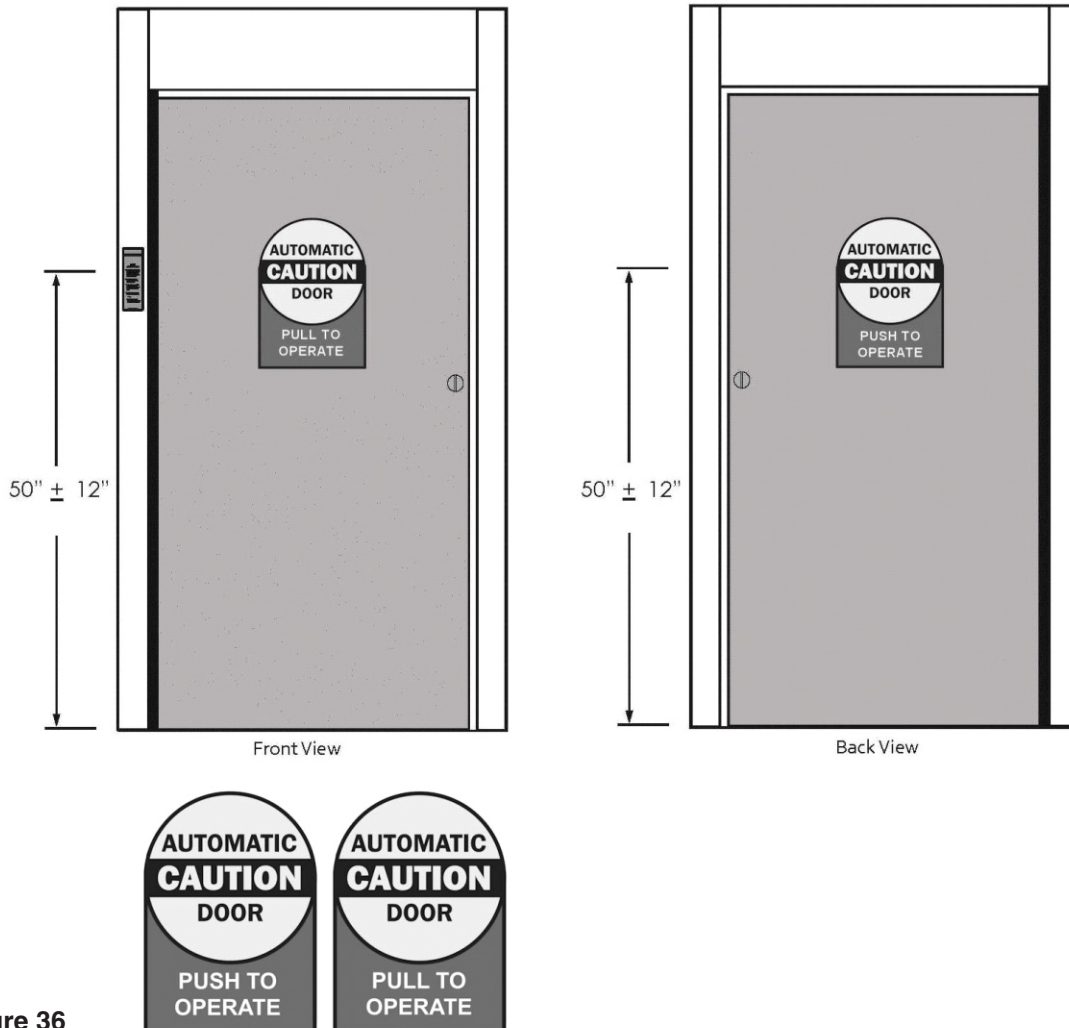

Figure 36
1. Refer to Figure 36, and INSTALL door decals.
2. IF PUSH AND GO is enabled, APPLY “PUSH TO OPERATE” and “PULL TO OPERATE” labels as shown in Figure 36.